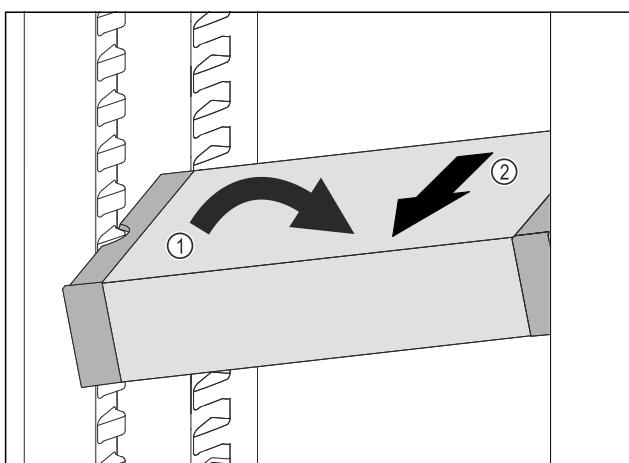

Fig. 112
- ▶ Set VarioSafe in refrigerator compartment at an angle. Fig. 112 (1)
- ▶ Take VarioSafe out to the front. Fig. 112 (2)